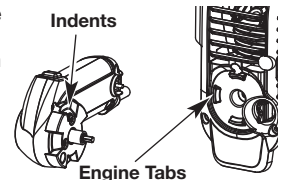

Fig. 1
1. Place the electric starter keyed tip into the hole in the rear of the engine, making sure the engine tabs on the back of the engine are flush with the indents on the electric starter. (Fig. 1)